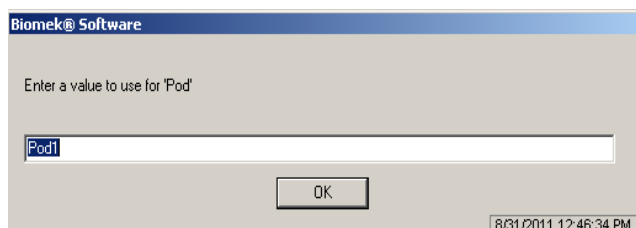

Figure 4. Selecting the Pod.
- 12 The next prompt to pop is shown in Figure 4. The default is Pod1, so just click OK.